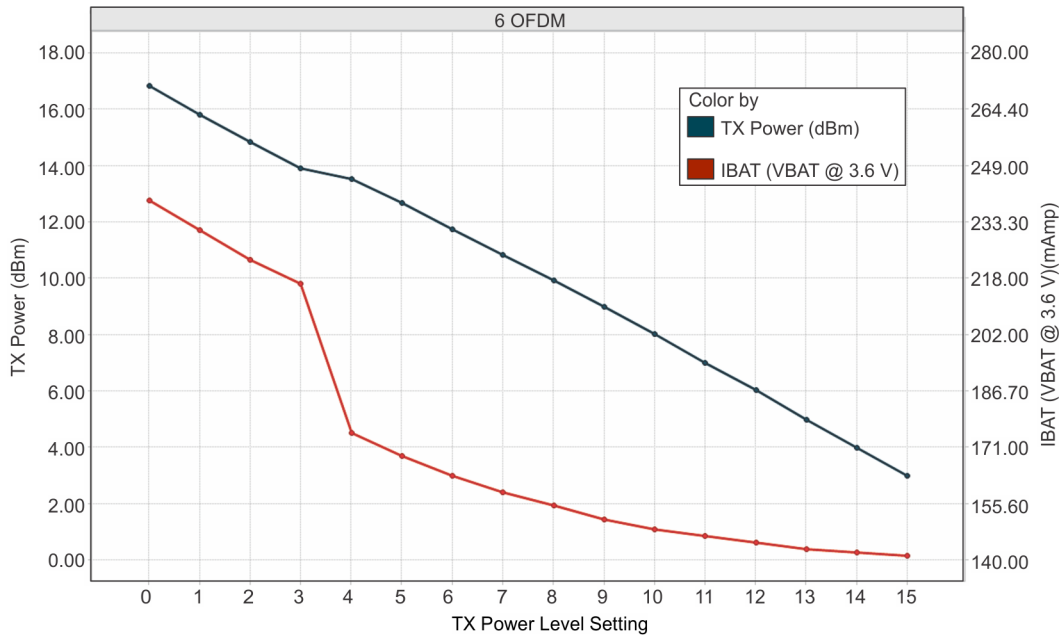
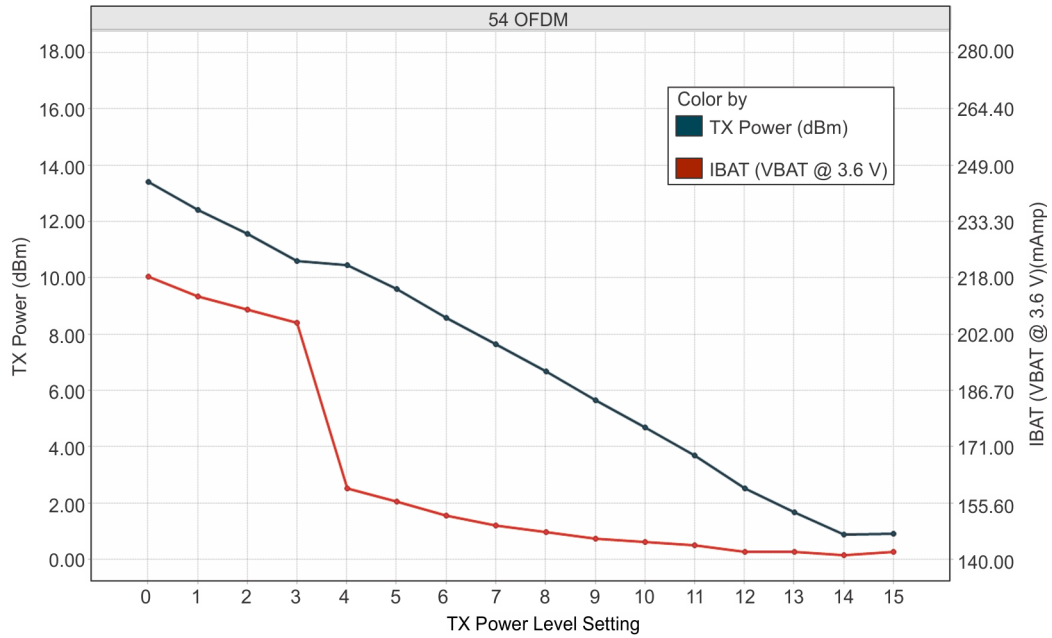

Figure 5-2. TX Power and IBAT vs TX Power Level Settings (6 OFDM)
Figure 5-3. TX Power and IBAT vs TX Power Level Settings (54 OFDM)
- (1) TX power level = 0 implies maximum power (see Figure 5-1, Figure 5-2, and Figure 5-3). TX power level = 4 implies output power backed off approximately 4 dB.
- (2) The CC3120MOD system is a constant power-source system. The active current numbers scale inversely on the V_{BAT} voltage supplied.
- (3) The RX current is measured with a 1-Mbps throughput rate.
- (4) DTIM = 1
- (5) The complete calibration can take up to 17 mJ of energy from the battery over a time of 24 ms. In default mode, calibration is performed sparingly, typically when re-enabling the NWP and when the temperature has changed by more than 20°C. There are two additional calibration modes that may be used to reduced or completely eliminate the calibration event. For further details, see the CC3120, CC3220 SimpleLink™ Wi-Fi® and IoT Network Processor Programmer's Guide.